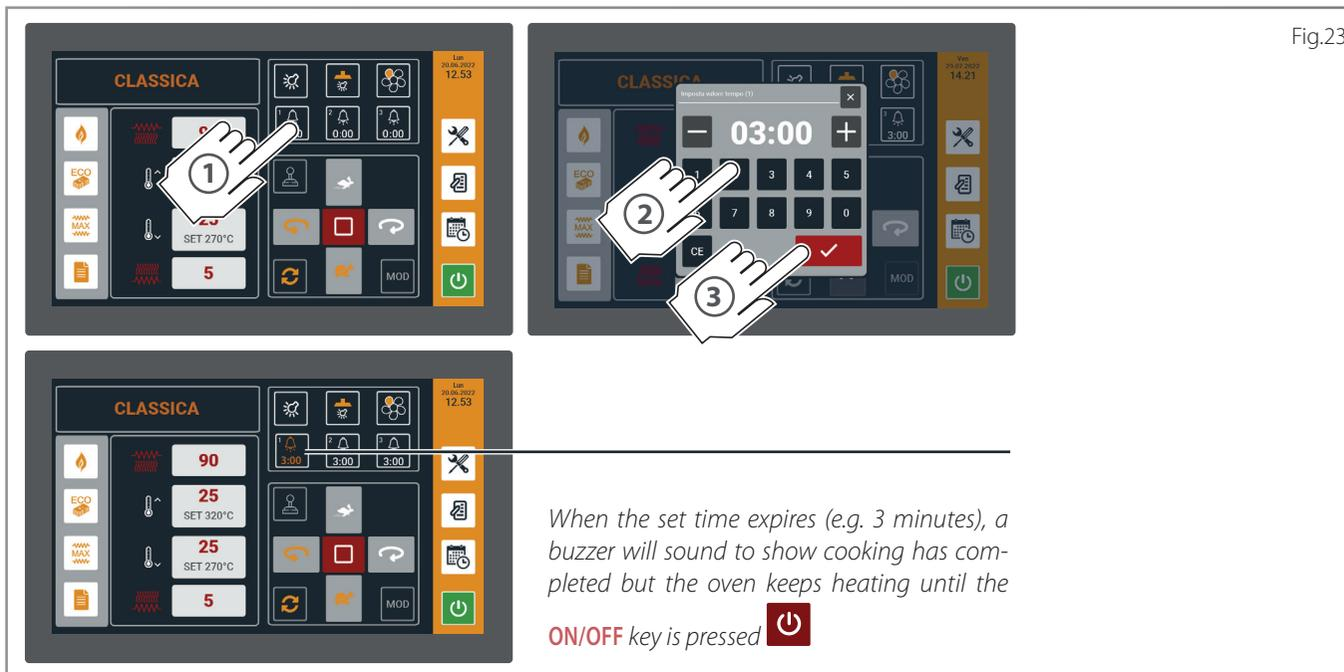

Fig.23
► Fig.23 - setting from display